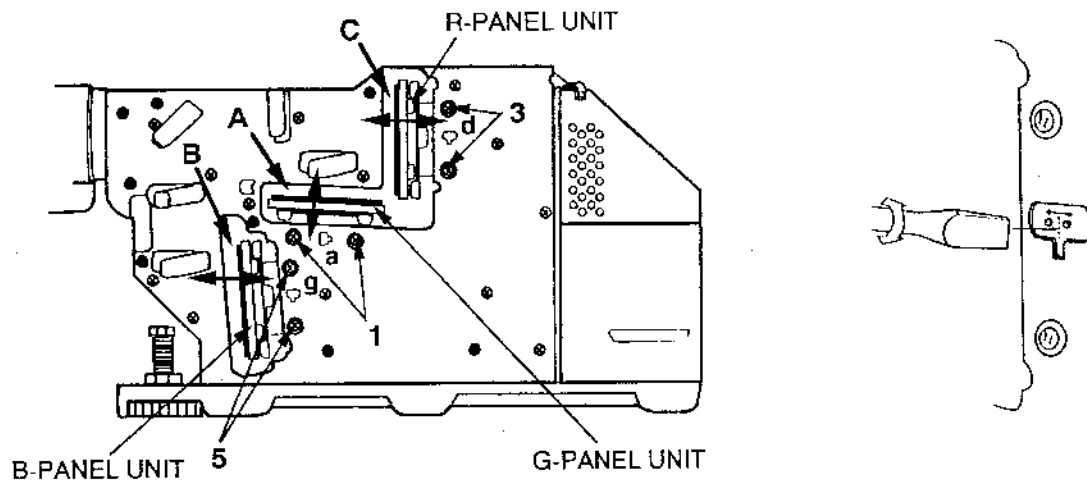
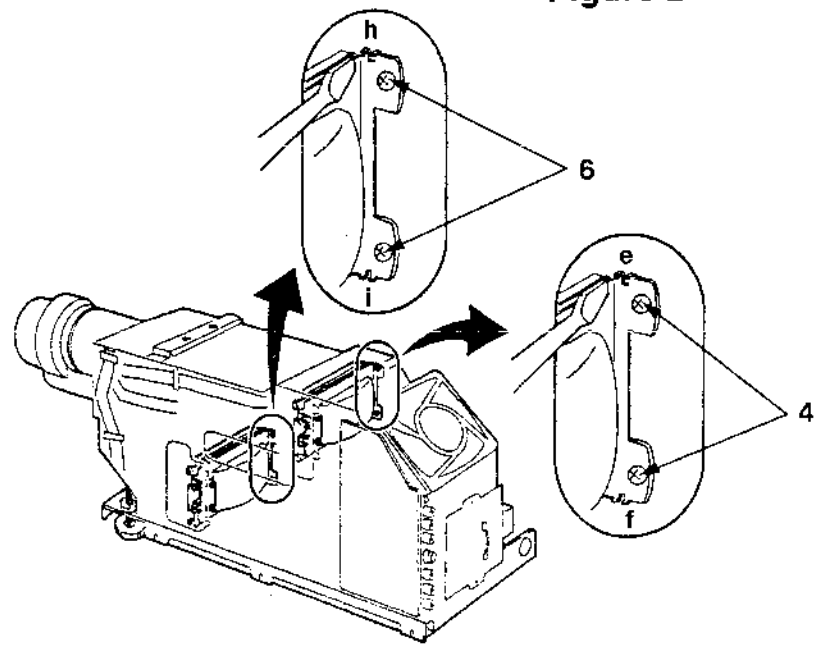

Figure 1
Figure 3
1. Insert paper, etc. in locations A and C as indicated in Fig.1 to block the G light and R light, and project only the B light.
2. Loosen screws "5" (Fig.1) and screw "6" (Fig.3). Move the B panel unit forward or backward until the middle right side of the screen is in sharp focus. For adjustment, insert a slot head screwdriver in the adjustment slot "g"(Fig.1).
3. In the same manner, use the slot "h"(Fig.3) and adjust the top left side of the screen is in sharp focus.
4. Then use the slot "i"(Fig.3) and adjust the bottom left side of the screen is in sharp focus.